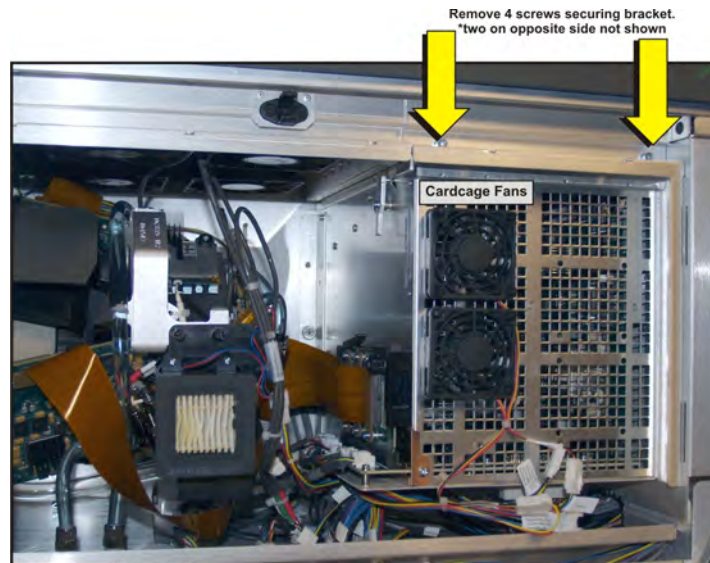

Figure 5-33 Top of Cardcage
7. Remove the four screws securing the hex driver holder plate above the cardcage assembly. (**Figure 5-33**)
8. Disconnect the harnesses from the cardcage fans. (**Figure 5-33**)